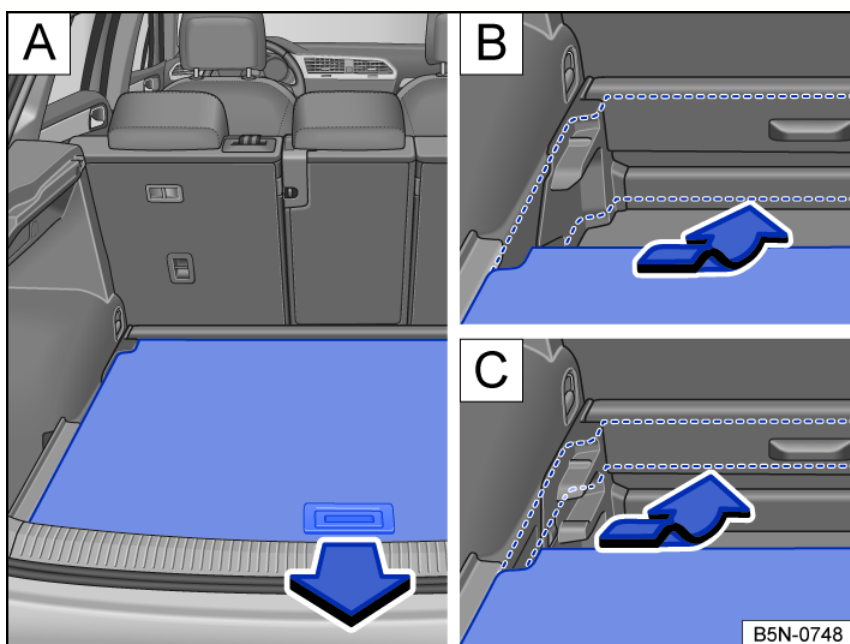

Fig. 159 In the luggage compartment: Adjusting the height of the luggage compartment floor.
- Lift the luggage compartment floor and pull it backwards out of the guides on the sides of the luggage compartment fig. 159 \(A\).
- Insert the luggage compartment floor into the guides at the desired height and push it forwards as far as it will go fig. 159 \(B\), \(C\).
- Pull the luggage compartment floor backward by the handle fig. 159 out of the side guides.